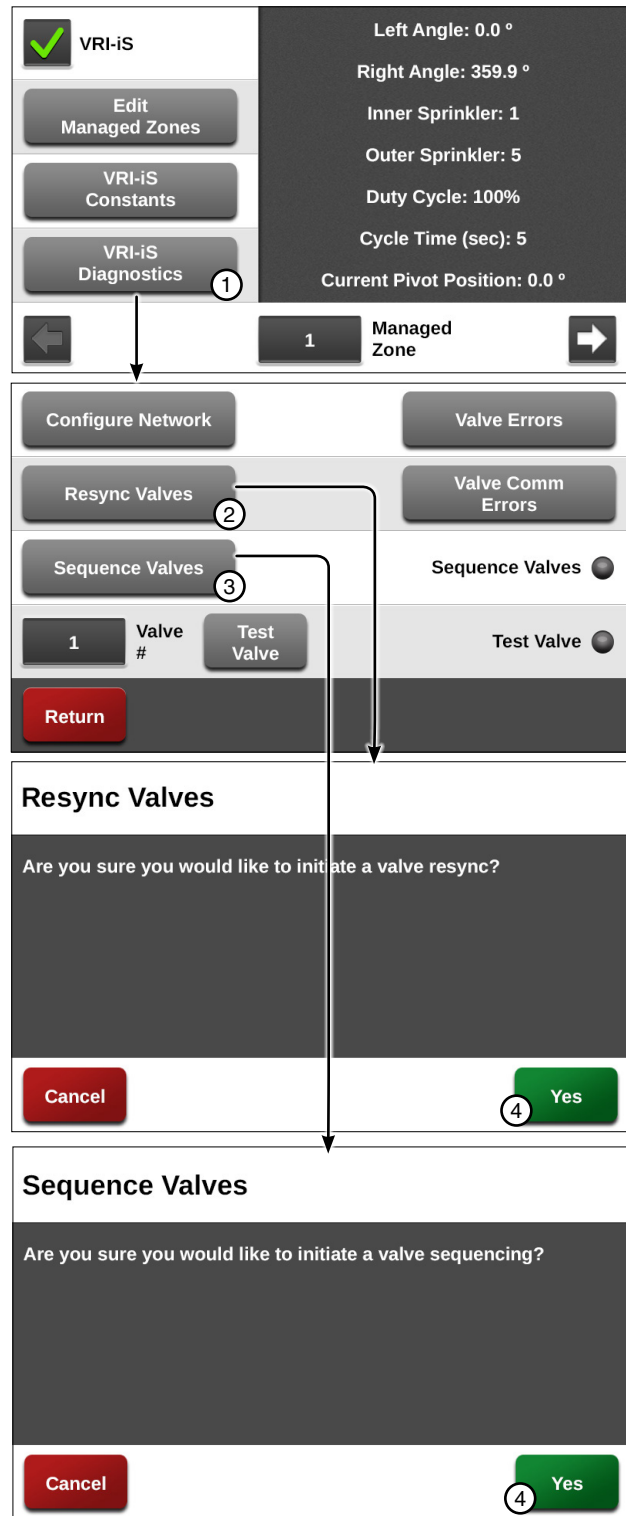

Figure 180-1 1. VRI-iS Diagnostics 3. Sequence Valves
1. Push **Menu, Programs, VRI,** and **VRI-iS Diagnostics** to display the VRI-iS diagnostics screen. Refer to Figure 180-1.